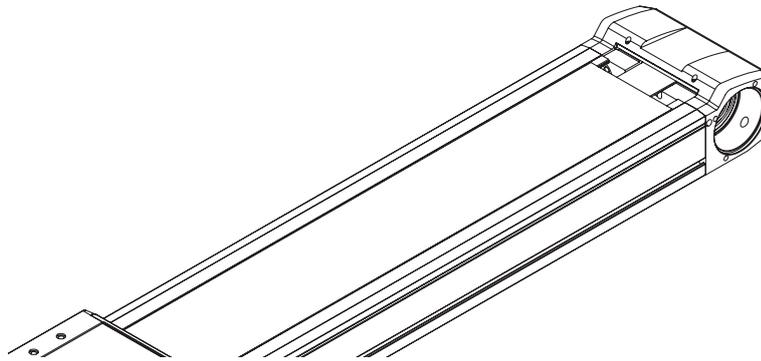
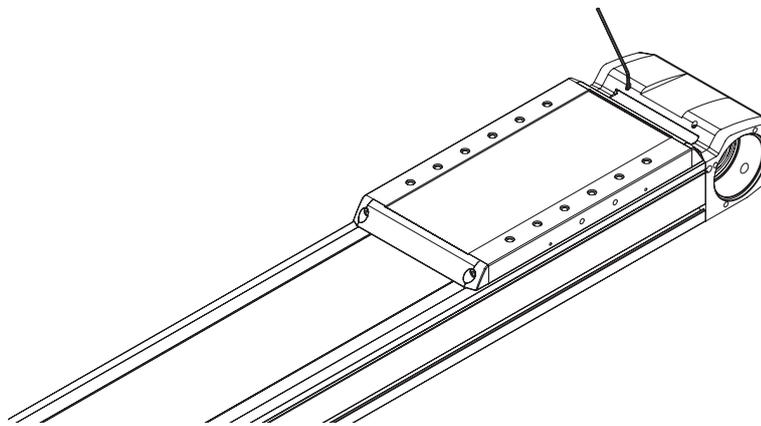

Fig. 7.17 **Mounting the cover strip under the cover strip clamp for HT-B**
Fig. 7.18 **Removing/mounting the cover strip clamp for HT-B**
- ▶ Undo the clamping screw of the cover strip clamp at both ends of the axis as shown in Fig. 7.18.
- ▶ Hand-tighten the clamping screws of the cover strip clamp (see Fig. 7.17 and Fig. 7.18).
- ▶ Check whether the cover strip is centred in the axis profile when the carriage moves and, if necessary, align the cover strip centrally by loosening the cover strip clamp (Fig. 7.18).